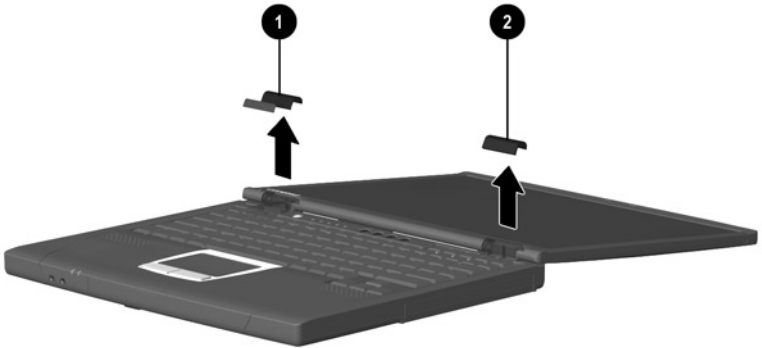

Figure 5-3. Removing the Hinge Covers
4. Use a flat blade screwdriver to pry up on the front edge of the left ❶ and right ❷ hinge covers (Figure 5-3).